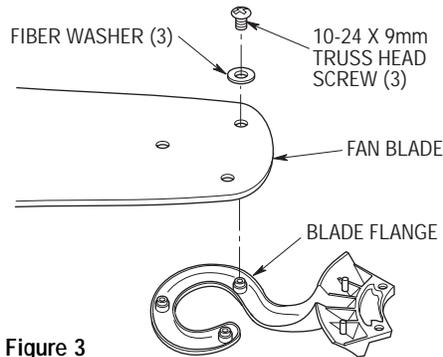

Figure 3
- 3. Mount the fan blades to the blade flanges using three 10-24 x 9mm truss head screws and three fiber washers (supplied) (Figure 3).